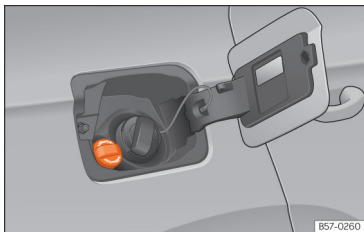

Fig. 236 AdBlue tank cap.
- Open the tank cover »» Fig. 236.
- Turn the bottle in a counter-clockwise direction and gently pull it upwards »» ①.
- Turn the SCR tank cap anti-clockwise »» Fig. 236.